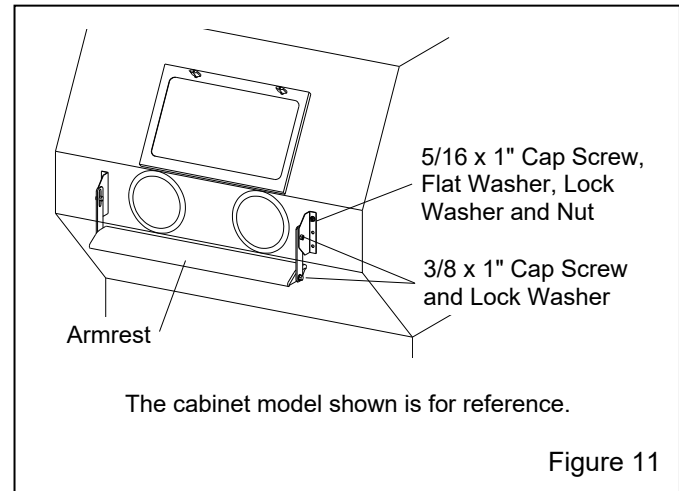

Figure 11
3.3.1 Assemble the armrest and mounting brackets, as shown in Figure 11.